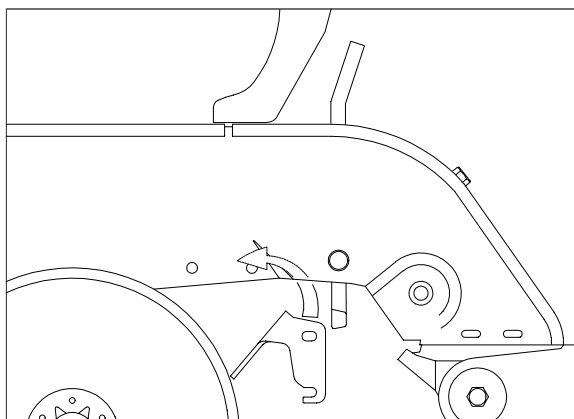

Figure 2
4. Insert the edge of the Seed-Lok™ Mount (#3) in the bottom of the opener body, see Figure 2.